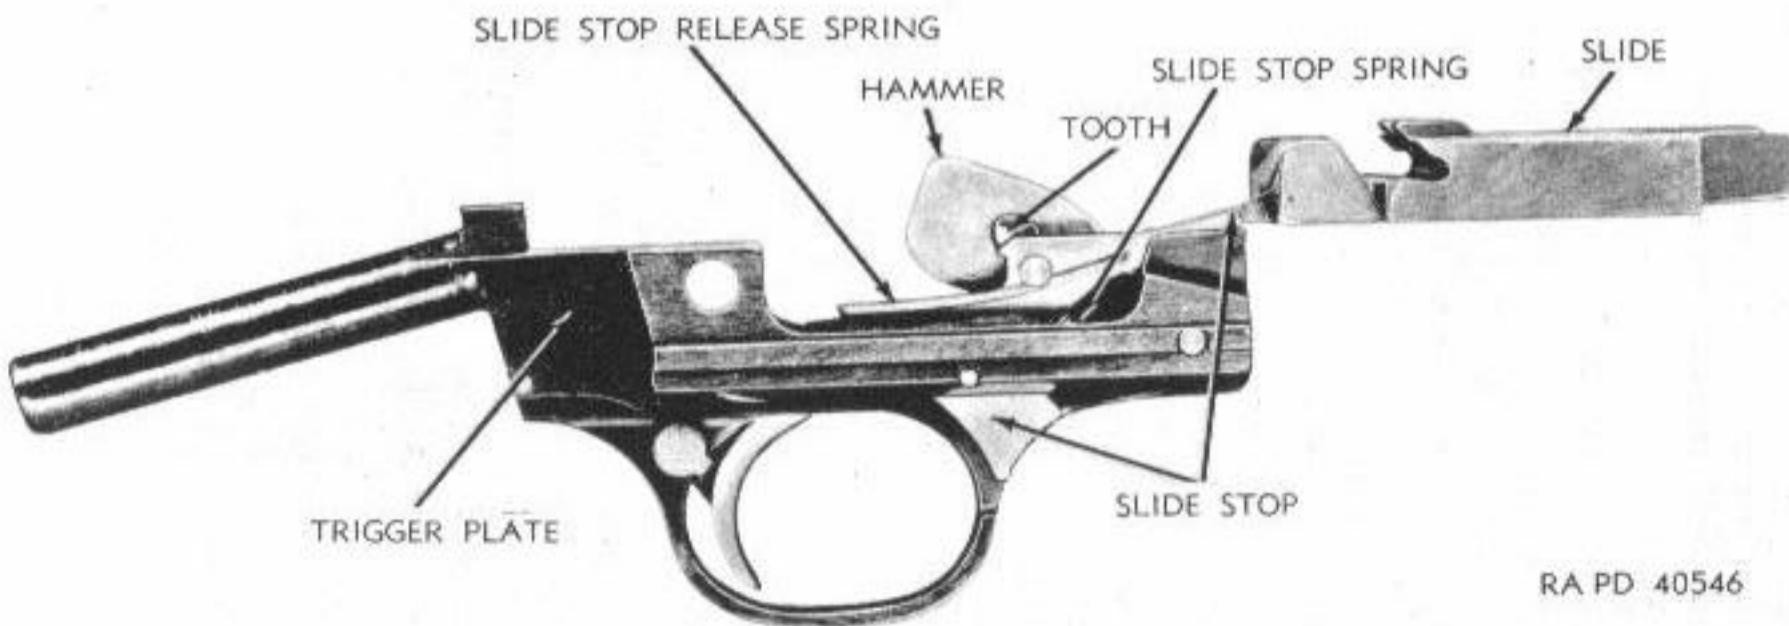

Figure 62—Slide and Trigger Plate Groups—Slide Blocked—Hammer Unlocked—Ithaca Shotgun M37
f. As the slide reaches the extreme forward position, the forward end of the slide stop, over which it has been riding, springs up behind it to block any rearward movement of the slide, thus preventing premature unlocking of the breechblock (fig. 62).